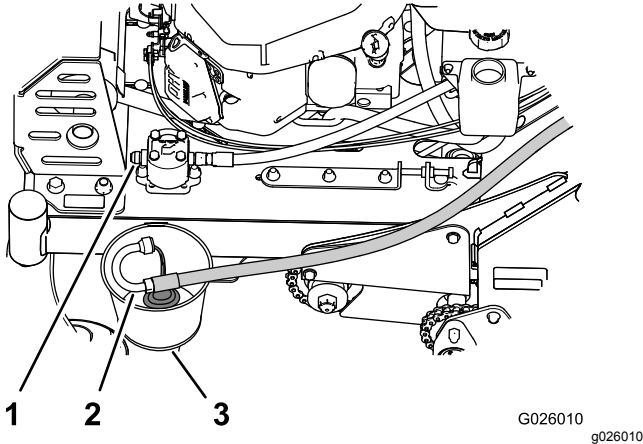

Figure 56
3. At the front of the auxiliary hydraulic pump, remove the inlet hose from the hydraulic fitting in the pump, place the end of the hose in a drain container, and allow the fluid to drain (Figure 56).